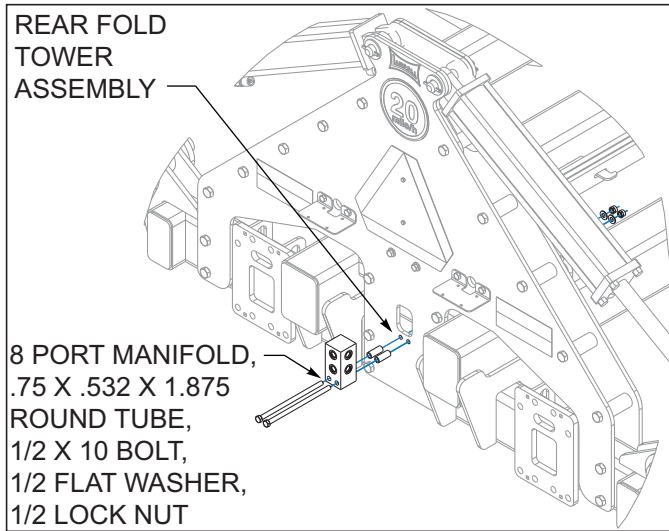

Figure 3-42: 8 Port Manifold Installation
11. Models 2411AFG-07-09 install the 8 port manifold to rear fold tower assembly with 1/2 x 10 bolts, 1/2 lock nuts as shown **See Figures 3-42.**